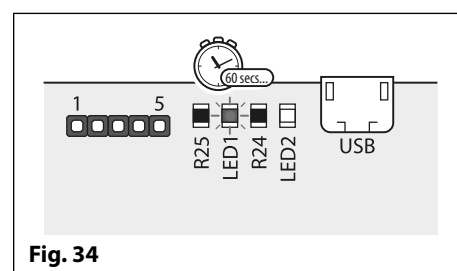

Fig. 34
4. The red LED (LED1) will then start to flash for approximately 60 seconds while it resets the master code back to 1111 (4x1), as shown in **Fig.34**;